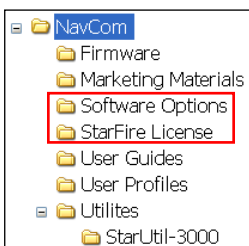
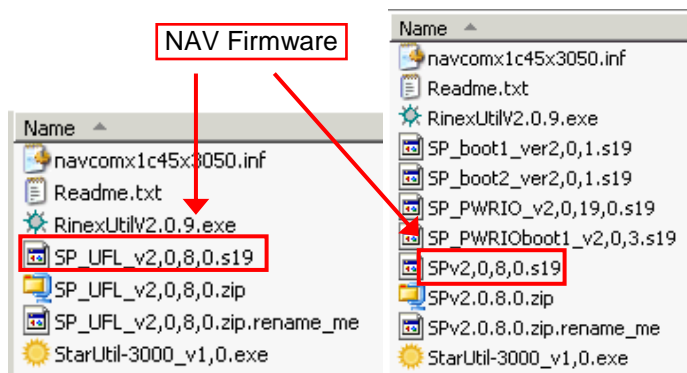

Figure 2: NavCom Sub-Folders on PC
Figure 9: Firmware Folder
9. On the PC, create two folders in the NavCom folder for the Software Options File and the StarFire License (see Figure 2).
10. Browse to Navcom\Utilities\StarUtil 3000 on the PC (see Figure 2).
19. Browse to the NavCom\Firmware folder on the PC (see Figure 2). The Firmware folder is copied from the SF-3050 Product Configuration USB Flash Drive. It contains the *most current firmware* (see example files in Figure 9). The firmware file extension is *.s19.
26. Browse to NavCom\Firmware on the PC (refer to Figure 2). The Firmware folder contains the *most current firmware*. The firmware file extension is *.s19.